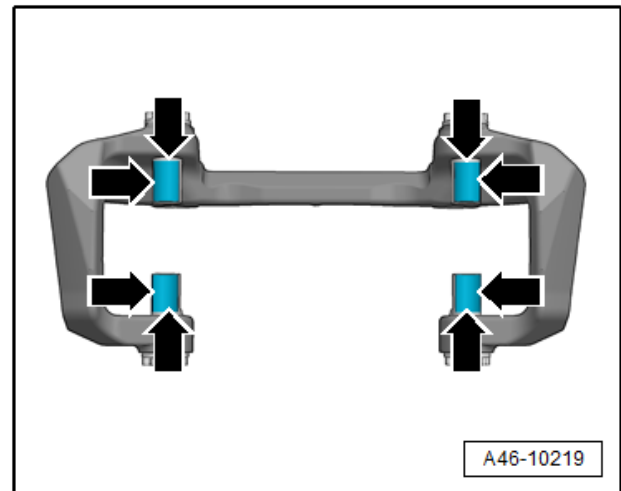

Figure 2. Caliper carrier guide pins with anti-seize (G 052560A2) lubricant applied where the pads make contact.
2. Apply a thin coat of anti-seize (G 052560A2) lubricant to the guide pins of the front caliper carriers (Figure 2).